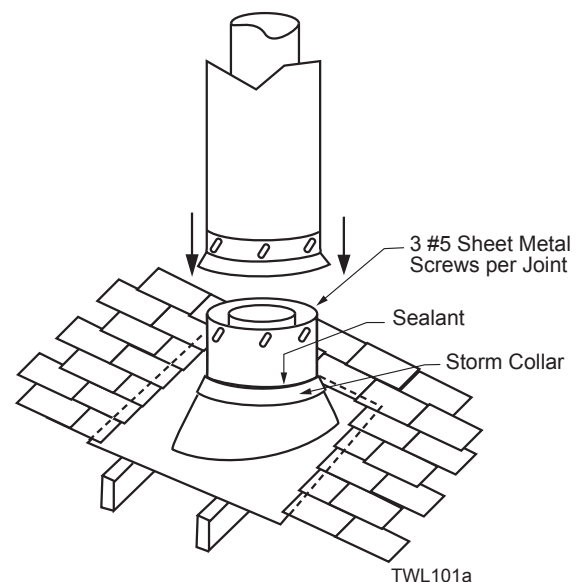

Figure 41 - Roof Flashing
7. Install roof support (*Figure 39*) and roof flashing making sure upper flange is below the shingles. *Figure 41*
8. Install appropriate pipe sections until the venting is above the flashing. *Figure 41*
10. Add additional vent lengths for proper height. *Figure 41*